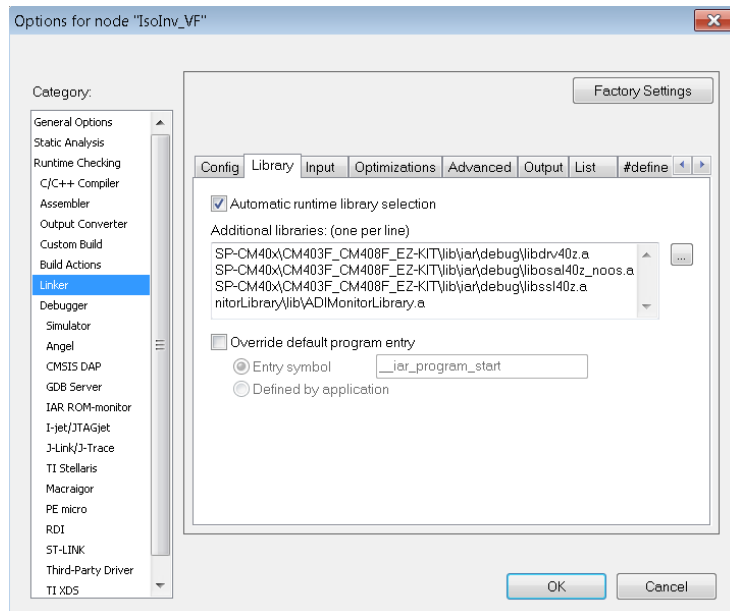

Figure 5: Linker libraries
- Ensure that the linker library files are listed as shown in Figure 5 and that the Linker configuration file in the *Linker->Config* tab is set to \$PROJ_DIR\$\CM40z_384_2048_copy_to_SRAM.icf.